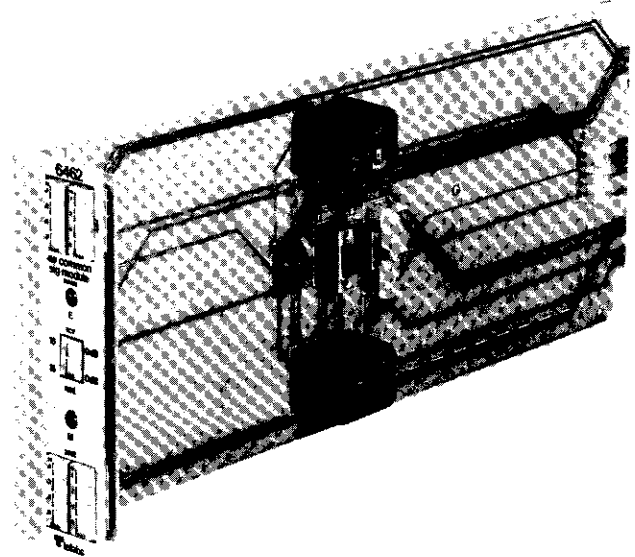

figure 1. 6462 4W Common Signaling Module
1.01 The 6462 4Wire Common Signaling Module (figure 1) is designed to interface a 4wire transmission facility with a 4wire metallic loop or PBX trunk. As such, the 6462 functions as a 4wire-to-4wire pad/transformer module. Both adjustable transmission attenuation and switch-selectable choice of facility-side terminating impedance are provided. In addition, the 6462 accepts several types of optional signaling converter plug-on subassemblies that provide various modes of loop-to-E-and-M or E-and-M-to-duplex (DX) signaling conversion. The loop and DX converters extend signaling and supervision to a distant location by accessing simplex leads derived via the line transformers that interface the metallic 4wire facility.